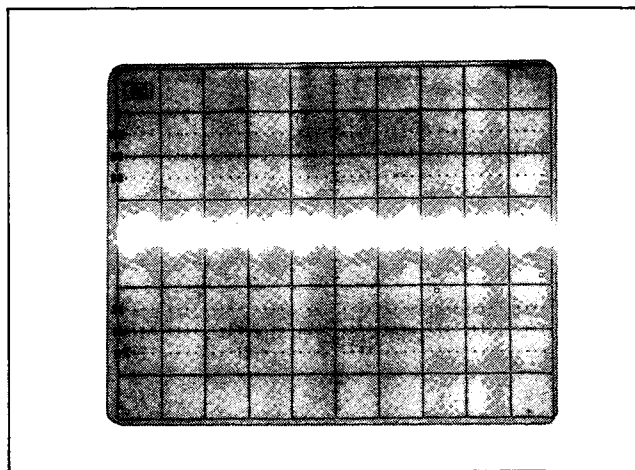

Figure 5-12B. DC/AC Balance Triangle Adjustment
K. Adjust A1R511 (Triangle AC Bal) to make the beam as narrow as possible. (See Figure 5-12B.)